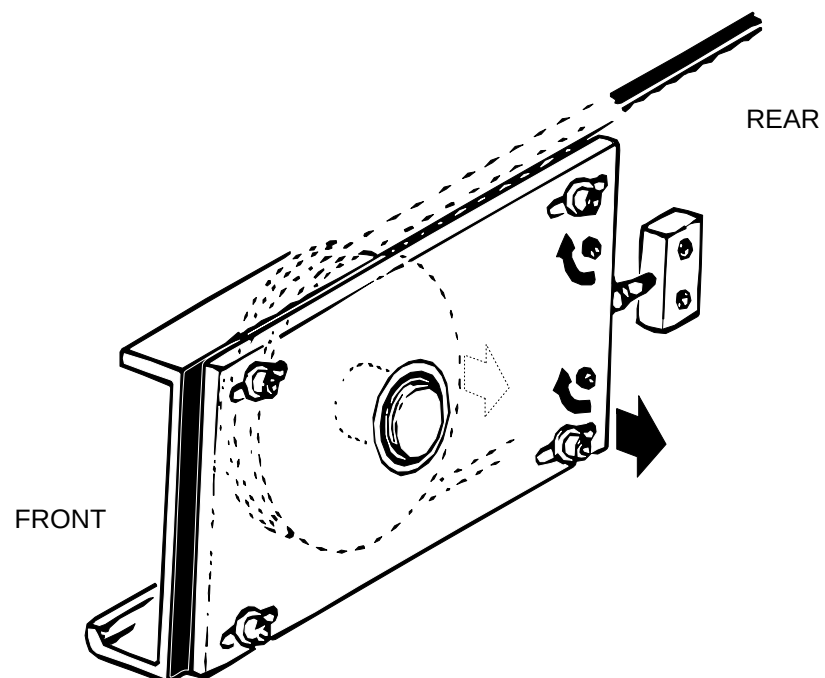

FIGURE 90 BELT RUN OUT ADJUSTMENT
10. If the pulley does not have a rim to retain the drive belt, manually, verify that the belt rides true on the front pulley. If not, adjust the set screws on the pulley block (See Figure 90). (Turn the set screws clockwise to move the rear of the block away from the Patient Support). Moving the rear of the block away from the subframe will cause the drive belt to move away from the subframe.